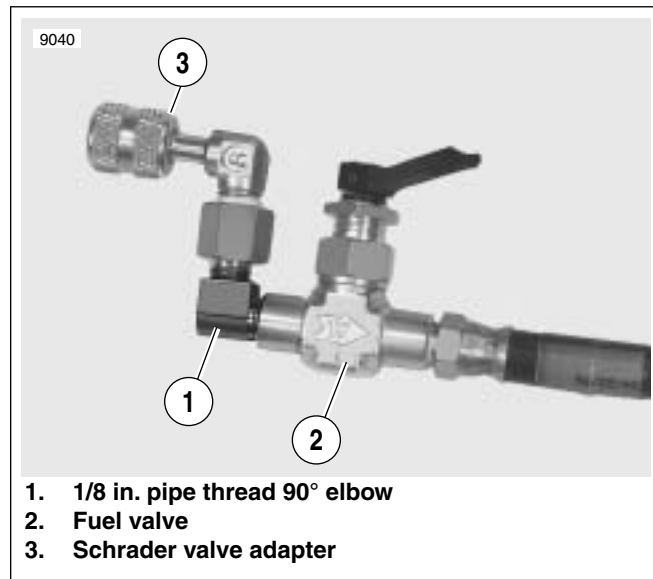

Figure 4-42. Fuel Pressure Gauge Valves
4. See Figure 4-42. Insert a 1/8 in. pipe thread 90° degree (right angle) elbow (1) between the fuel valve (2) and the Schrader valve adapter (3).